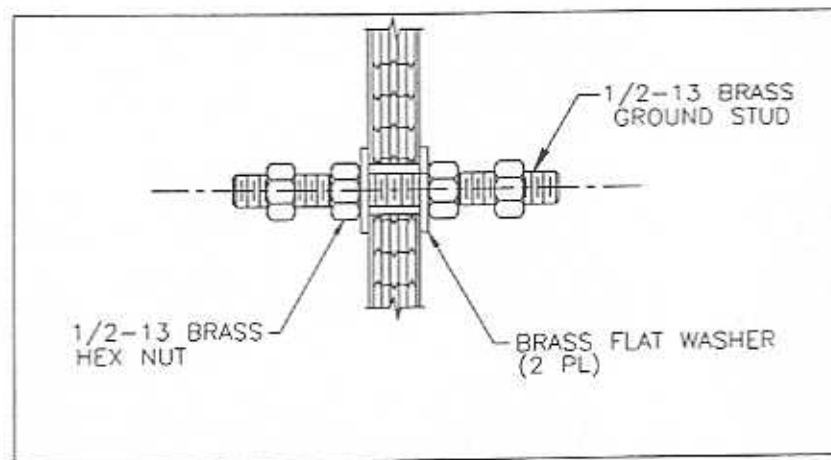

FIGURE 7: GROUND STUD
2. Grounding of the RF shielded enclosure is required to insure life safety prior to energizing any of the electrical circuits connected to the enclosure. The RF shielded enclosure must be grounded in accordance with the NFPA 70, National Electric Code, State Codes and Local Codes. The ground connection to the enclosure is made at the ground stud. See Figure 7.
A 9/16" hole must be drilled for the brass ground stud in the appropriate panel. Refer to Figure 7 for reference.